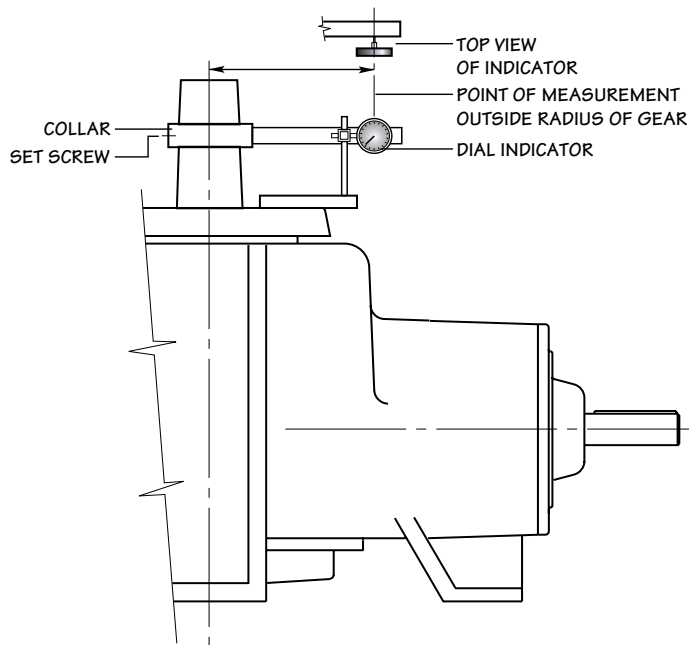

Figure 6 Gear Backlash Measurement
With the "X" marked tooth on the pinion gear engaged between the two "X" marked teeth on the ring gear, check the backlash with a dial indicator as shown in **Figure 6**. Lock the pinion shaft against rotation. The amount of movement of the fan shaft, measured at a distance equal to the outside radius of the ring gear is the backlash. The backlash on the 6.50/1 gear set should be between .013 and .018" (.33 and .46mm). The backlash on all other ratios should be between .010 and .015" (.25 and .38mm). With the "X" teeth engaged, the backlash should be approximately in the middle of the allowable range. Check the backlash at three other points around the ring gear to be sure the backlash is within the specified limits. Adjust ring gear axially by removing or adding shims (420) at bottom bearing retainer.